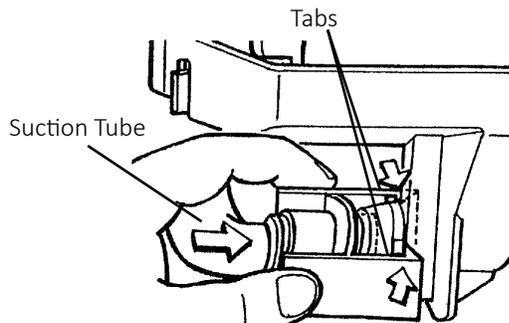

Fig. 25
8. Reconnect the suction tube as illustrated. See Fig. 25. Make sure the tabs lock into place; a loose fitting may cause a water leak.